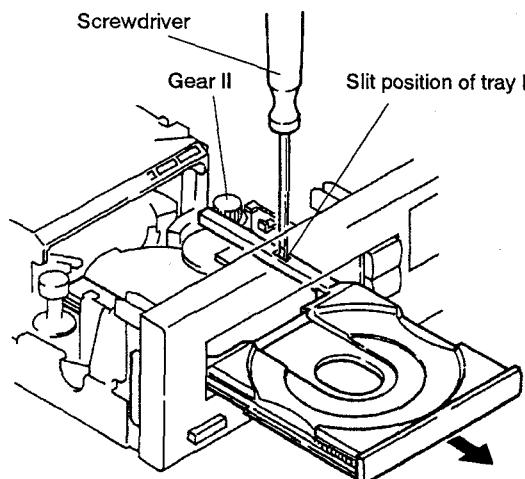

Fig. 1
- 1 Use nippers or other tool to cut the two sections marked Ⓐ in figure 1. Then remove the spacer.